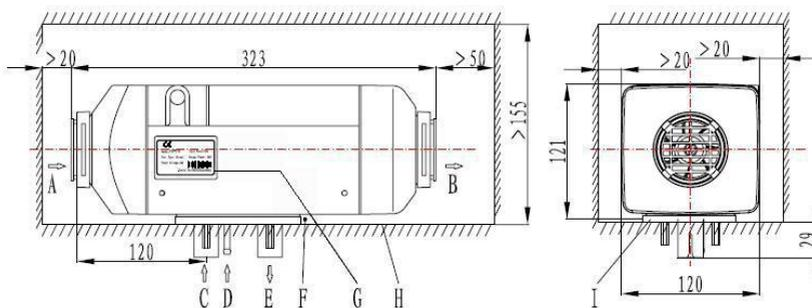

Fig. 8
4.2.2 For convenience of heating air flow and installation, maintenance of the main heater, enough space must be provided for installation. Please refer to the scope of double dot line for the space for installation, as shown in Fig. 8.
Please make sure that there is not any foreign matter in the gap between the bottom surface of the main heater and the installation surface of the vehicle (Fig. 8-F).
4.2.3 Good sealing is necessary between the main heater and the installation surface on the vehicle. A special gasket (as shown in Fig. 8) supplied by the manufacturer must be inserted in between during installation. The installation surface must be even enough. Its parts at the installation bases of the main heater shall have unevenness of less than 1mm. After drilling installation holes, evenness must be improved according to this requirement. At installation, please rotate the four M6 nuts, provided by the manufacturer, tight. The torque for tightening shall be 6Nm+1Nm.